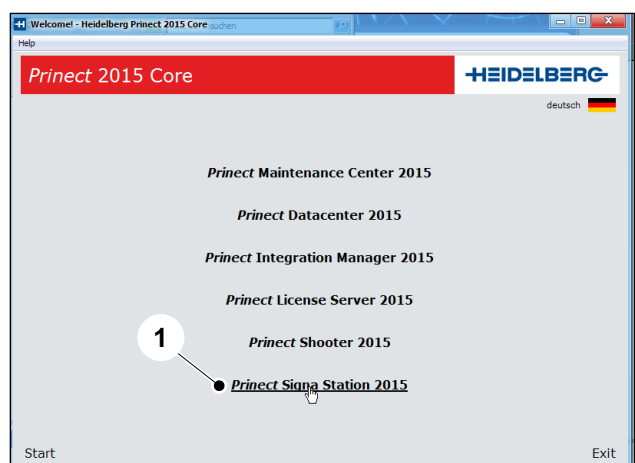

Fig. 3 Prinect 2015 Core menu
- Click the menu entry **Prinect Signa Station 2015** (Fig. 3/1).